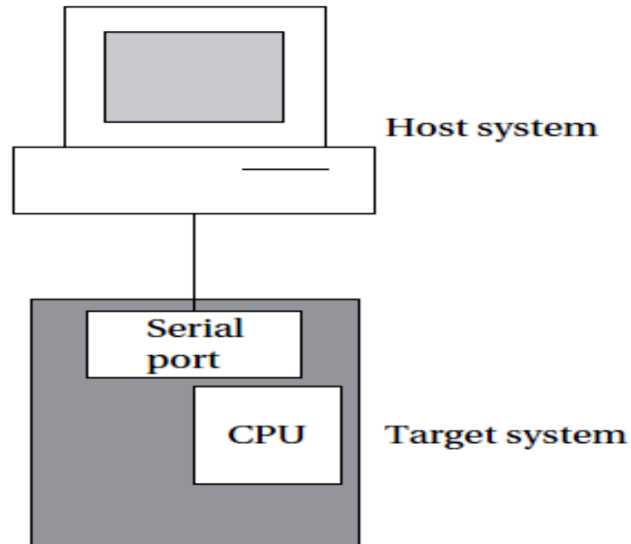

FIGURE 4.23
- ❖ Although we may use an evaluation board, much of the software development for an embedded system is done on a PC or workstation known as a **host** as illustrated in Figure 4.23.